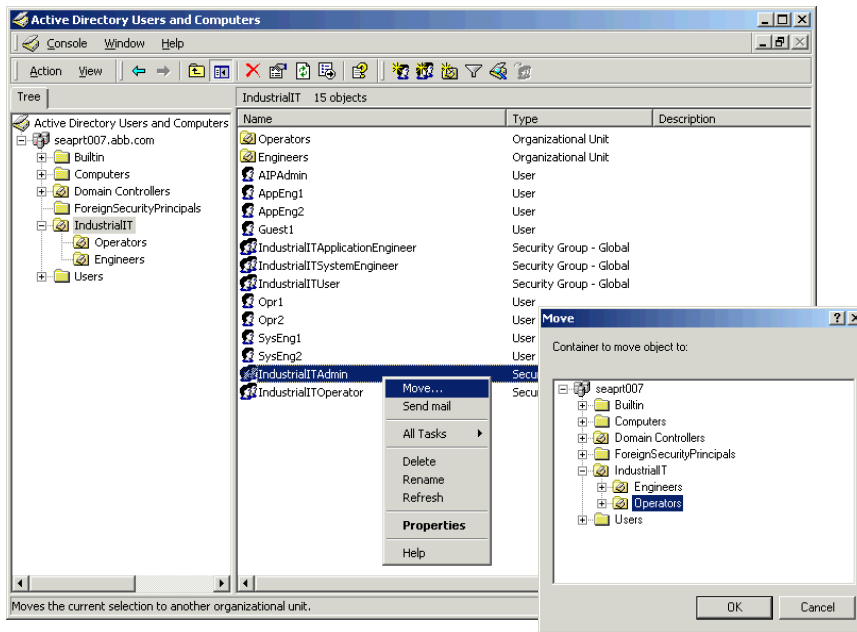

Figure 32. Move User Groups
3. Move the automatically created user groups to the Operators organizational unit. See Figure 32.